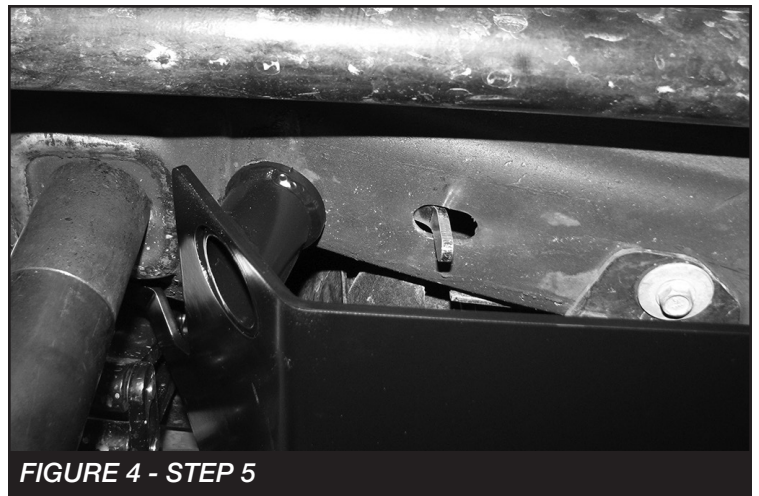

FIGURE 4 - STEP 5
5. Using the FT30201 (Nut Tab) mount the front of the skid plate to the frame with a 1/2" bolt and washer. **SEE FIGURE 4**